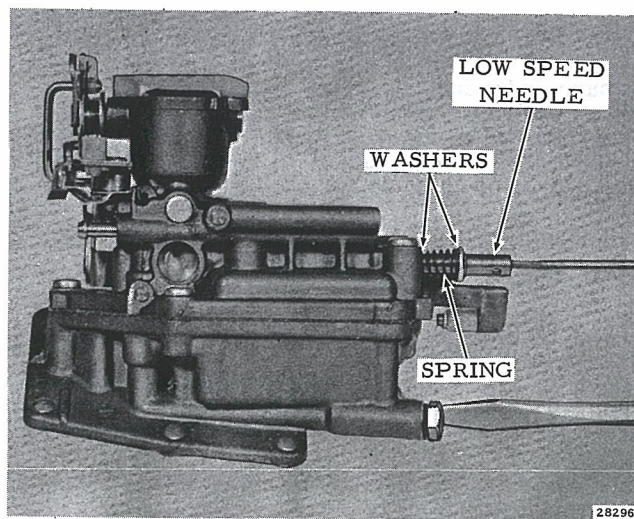

Figure 3-6. Removing Float Bowl Plug
a. Drain carburetor by removing screw plug at float chamber. See Figure 3-6. Remove two long and two short screws attaching carburetor to float chamber.
b. Unscrew low speed needle from carburetor. Avoid loss of two washers and spring. See Figure 3-6.